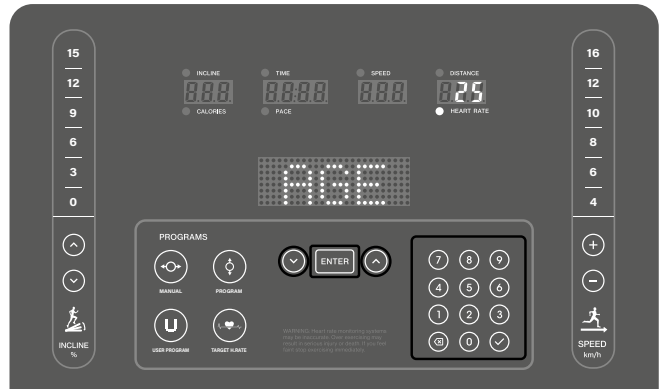

FIGURE 18
3. Set your age using the arrow keys ( $\wedge/\vee$ ) (Figure 18).